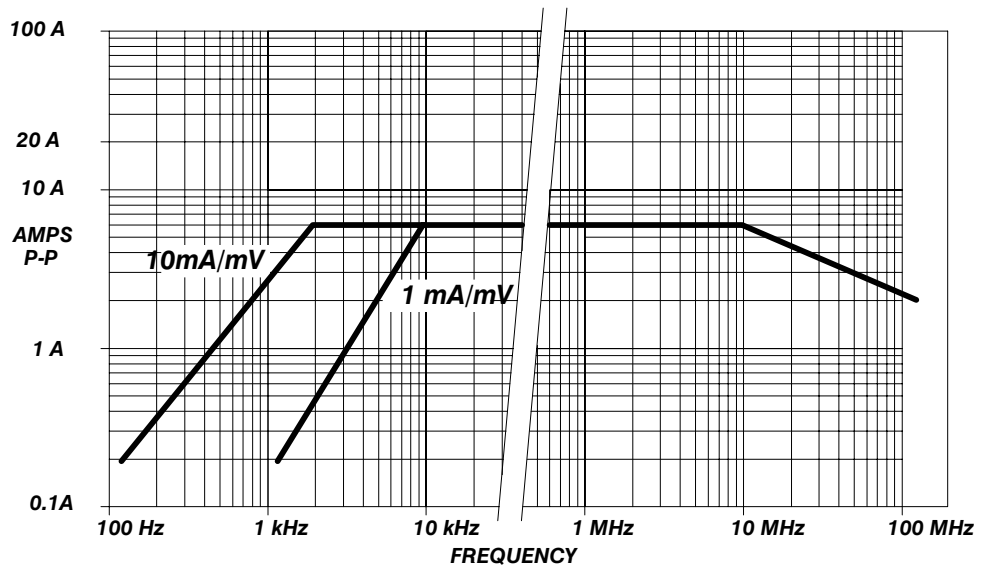

Figure 3: Probe and Termination Input Current vs. Frequency Derating
| Maximum continuous (CW) current | Refer to Figure 3 for frequency derating curves |
Refer to Figure 3 for frequency derating curves